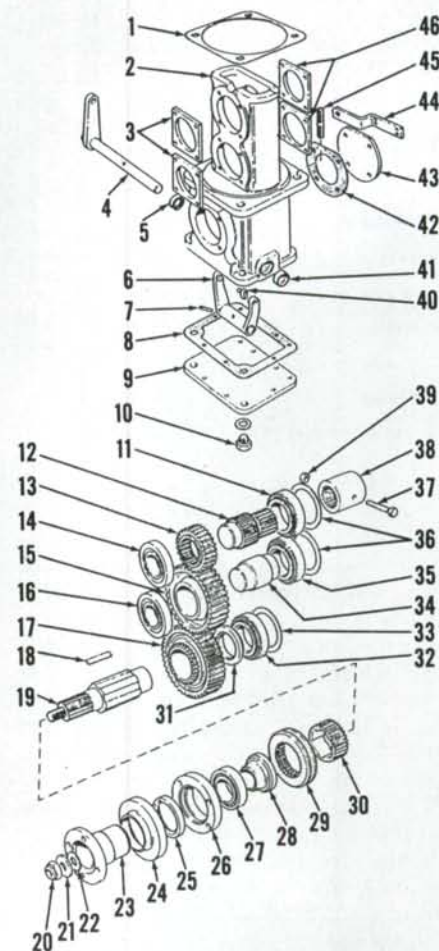

Fig. 16—Exploded view of transfer gearbox used with David Brown front drive axle showing component parts and their relative positions.
19. R&R TRANSFER GEARBOX. Drain oil from transfer case and transmission. Capacity is approximately 42 L (44 quarts). Remove front drive shaft. Engage front-wheel drive, then remove output shaft flange retaining nut (20—Fig. 16). Remove platform or cab, if equipped, as outlined in paragraph 348 or 349. Remove fuel tanks. Disconnect selector cable from selector shaft (4). Remove left and right shift lever housings from transmission top cover. Remove bolts from transmission top cover, remove wedge and shims between top cover and clutch housing, and remove top cover using a suitable hoist. Remove bolt (37) and locknut (39), then slide coupler (38) connecting transfer gearbox input shaft to transmission bevel pinion shaft rearward. Remove selector cable bracket (44) and hydraulic pump inlet pipe connector. Support transfer gearbox with a hydraulic jack, then remove gearbox mounting bolts and lower gearbox from transmission housing.
When reinstalling, laminated gasket (1—Fig. 16) must be the same thickness as original gasket, or layers peeled off to allow coupler (38) to slide freely onto input shaft (12) and bevel pinion shaft. Tighten transfer gearbox mounting bolts to 165 N·m (120 ft.-lbs.) torque. Tighten output shaft flange nut (20) to a torque of 190 N·m (140 ft.-lbs.). Install transmission top cover with wedge and same thickness of shims that were removed. Tighten three middle $\frac{5}{8}$ inch bolts securing rear axle housing to top cover to 205-245 N·m (150-180 ft.-lbs.) torque. Tighten re-
20. OVERHAUL TRANSFER GEARBOX. With transfer gearbox removed, disassemble as follows: Remove end plates (3 and 46—Fig. 16) and shims (36). Note position and thickness of shims (36). Drive input shaft (12) and idler shaft (34) out of housing (2). Remove input gear (13). Remove front bearing and cup (16). Remove output flange (23), cork seal (22) and washer (21). Remove oil seal housing (26) and output shaft end cover (43). Note thickness of shims (33). Drive output shaft (19) out of housing (2), remove the six bearing pads (18) and bearing and cup (27). Remove bottom cover (9) and drive roll pin (7) out of selector fork (6) and remove selector shaft (4). Remove selector fork, fixed gear (30) and sliding gear (29). Remove output gear (17) and idler gear (15). Remove selector shaft oil seal (5) and core plug (41).
21. Install idler gear (15—Fig. 16) into bottom of transfer gearbox housing (2). Install output gear (17) into housing with hub for sliding gear engagement towards front of housing. Place fixed gear (30) inside sliding gear (29) and install output shaft (19) into rearward side of bottom hole in housing, pushing it through output gear (17) and partially through fixed gear (30). Oil slots on side of fixed gear (30) go against output gear (17). Spacer (31) and bearing (32) must already be assembled on output shaft (19). Install six bearing pads in output shaft, concave side against shaft, as it is pushed through output gear (17) and fixed gear (30). Install rear bearing cup (32), gasket (42), rear cover (43) and cable bracket (44) minus shims (33). Tighten bolts to 27 N·m (20 ft.-lbs.) torque. Install front bearing (27) and bushing (28) on output shaft and drive front bearing cup (27) into housing (2). Install oil seal (25) in oil seal housing (26) and install oil seal housing on transfer gearbox housing. Tighten bolts to 27 N·m (20 ft.-lbs.) torque. Hit end of output shaft (19) with a plastic hammer to seat bearings and cups.
To determine proper shim (33—Fig. 16) thickness, subtract 0.025 mm (0.001 inch) from dial indicator measurement if new bearings are installed, or subtract 0.076 mm (0.003 inch) from dial indicator measurement if original bearings are reused. The result is the required shim thickness to provide recommended end play.
Install oil seal (5—Fig. 16) into housing (2) and place trunnion pins (40) in selector fork (6). Install selector fork in housing, making certain trunnion pins engage slot in sliding gear (29). Install selector shaft (4) through oil seal (5) and selector fork. Align roll pin holes in selector fork and shaft and install roll pin (7). Install core plug (41), bottom cover gasket (8) and bottom cover (9). Install flange (23), cork washer (22), washer (21) and locknut (20). Tighten locknut to 190 N·m (140 ft.-lbs.) torque.
22. Install idler shaft (34—Fig. 16) and bearing assembly through rear of housing and drive it through idler gear (15). Install rear bearing cup (35) and end plate (46). Tighten bolts to 27 N·m (20 ft.-lbs.) torque. Drive front bearing (16) onto idler shaft (34) until seated. Install bearing cup (16) and end plate (3). Tighten bolts to 27 N·m (20 ft.-lbs.) torque and hit idler shaft (34) to seat bearings.
Mount dial indicator so end of probe contacts end of idler shaft (34—Fig. 16). Measure and record amount of end play. End play tolerance is 0-0.05 mm (0-0.002 inch) for new bearings and 0.05-0.10 mm (0.002-0.004 inch) for used bearings.
To determine correct shim (36—Fig. 16) thickness, subtract 0.025 mm (0.001 inch) from dial indicator measurement if new bearings are used, or subtract 0.076 mm (0.003 inch) from dial indicator measurement if original bearings are reused. The result is the required thickness of shims needed to obtain desired end play.
Remove rear end plate (46—Fig. 16) and install correct shim (36) thickness. Reinstall end plate (46) and tighten bolts to 27 N·m (20 ft.-lbs.) torque. Recheck end play and adjust shim thickness, if necessary, if not within required tolerance.
23. Install input shaft (12—Fig. 16) and bearing assembly through front of